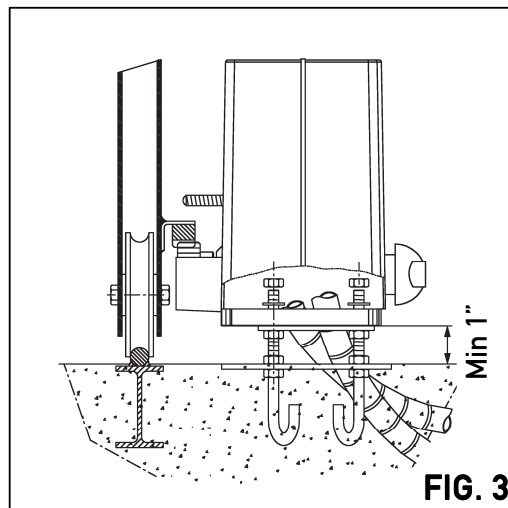

FIG. 3
- Position provided nuts **(D)** and height adjustment plates **(B)** on the anchoring hooks **(A)** at least 1" higher than the template plate **(C)** (Fig. 3). This clearance is very important, in case the V-tracks sags, having no clearance prevents any future adjustment, the pinion will bear part of the weight of the gate, leading to wear of the rack and pinion teeth and possible damage to pinion shaft and bearings.